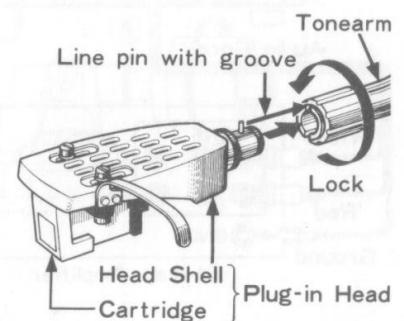

Fig. 5 Attaching the Plug-in Head
4. Attach the cartridge to the head shell as described under "How to attach the cartridge" on page 4. Turn the ring on the tonearm in the direction illustrated. This locks the head into the tone-arm securely. (Fig. 5)